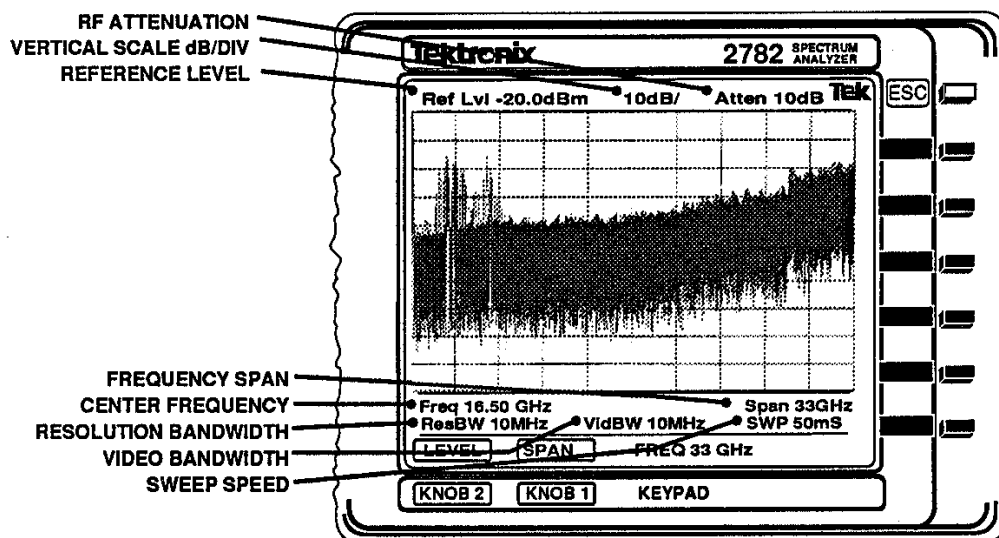

Figure 2-5. Instrument parameter readouts.
- c. The current center frequency is shown in the Freq parameter readout line; see Figure 2-5.